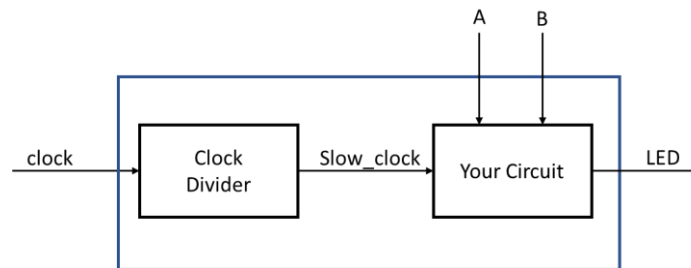

Figure 2: Synchronous circuit with clock divider
The schematic of the resulting circuit is shown in the following figure (*Figure 2*).
- 2- Modify the VHDL code of *Figure 4* below to include your previous design, according to *Figure 2*. Compile and make sure your code is free of errors. **(5 pts)**